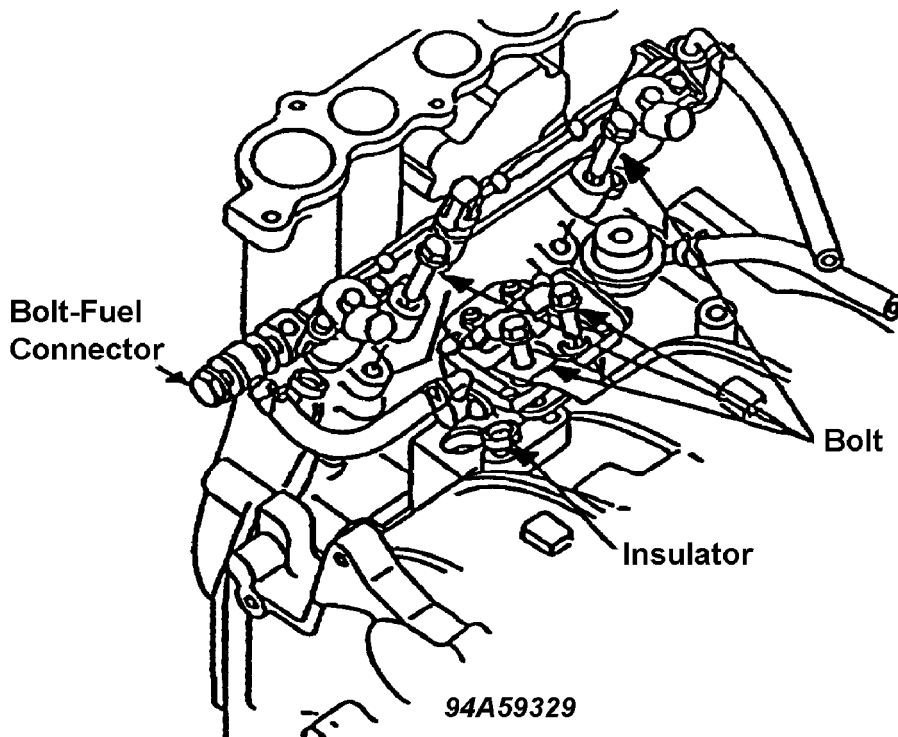

Fig. 50: Removal of Primary & Secondary Fuel Distributor & Insulator
24. Removal of primary fuel distributor, secondary fuel distributor and insulator. See Fig. 50.